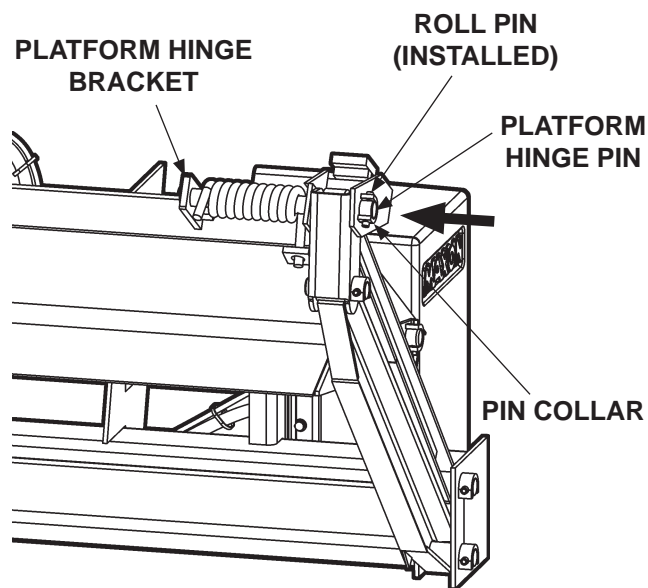

FIG. 19-1
5. Drive platform hinge pin inboard to correct position through the platform hinge bracket (**FIG. 19-1**). Line up the hole in the platform hinge pin with the hole in the pin collar. Install the roll pin through the pin collar until roll pin protrudes equally from both sides of the collar (**FIG. 19-1**).